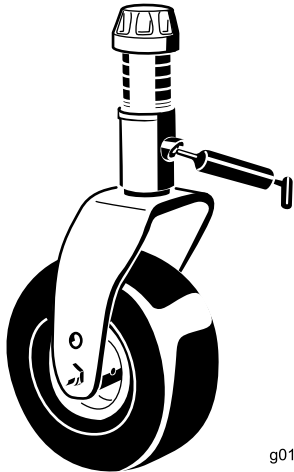

Figure 11
- Castor fork shaft bushings (4) (Figure 11)